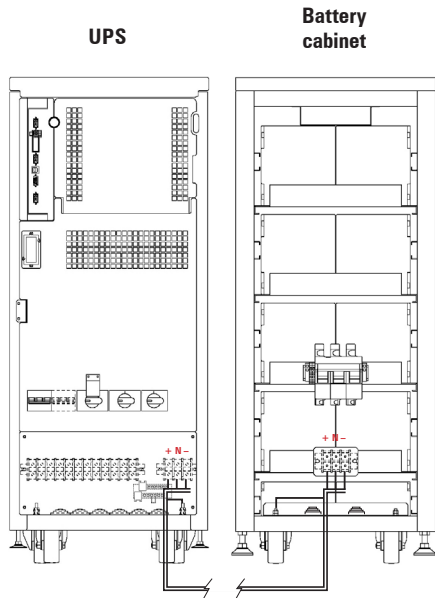

Fig. 33. Connection between UPS and battery cabinet.
- The connection of the battery cabinet with a UPS with power rate higher than 20 kVA (LV) / 40 kVA (HV) or for B1 models, will be done with the supplied cable bundle, by connecting one side to terminals **(X11), (X23), (X12)** and **(X19)** of UPS and the other one to terminals **(X47), (X49), (X48)** and **(X10)** of battery module, always respecting the stated polarity on the labelling of each element and this manual, as well as the colour of the cables (red for positive, black for negative, blue for middle tap (N) and green-yellow for earth bonding), see Fig. 33.